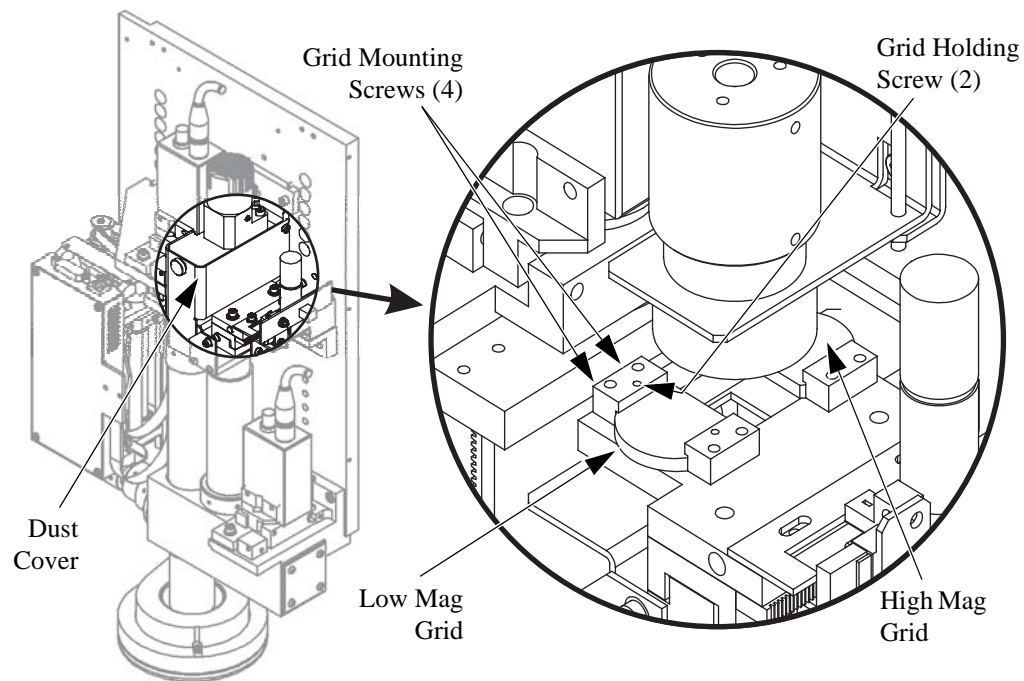

Figure 8-4 Ronchi Grid Rotation Adjustment
1. Remove the grid dust cover so you can visually check the rotation of the High and Low Mag grids (see Figure 8-4). Both grids should be square to the X-axis.